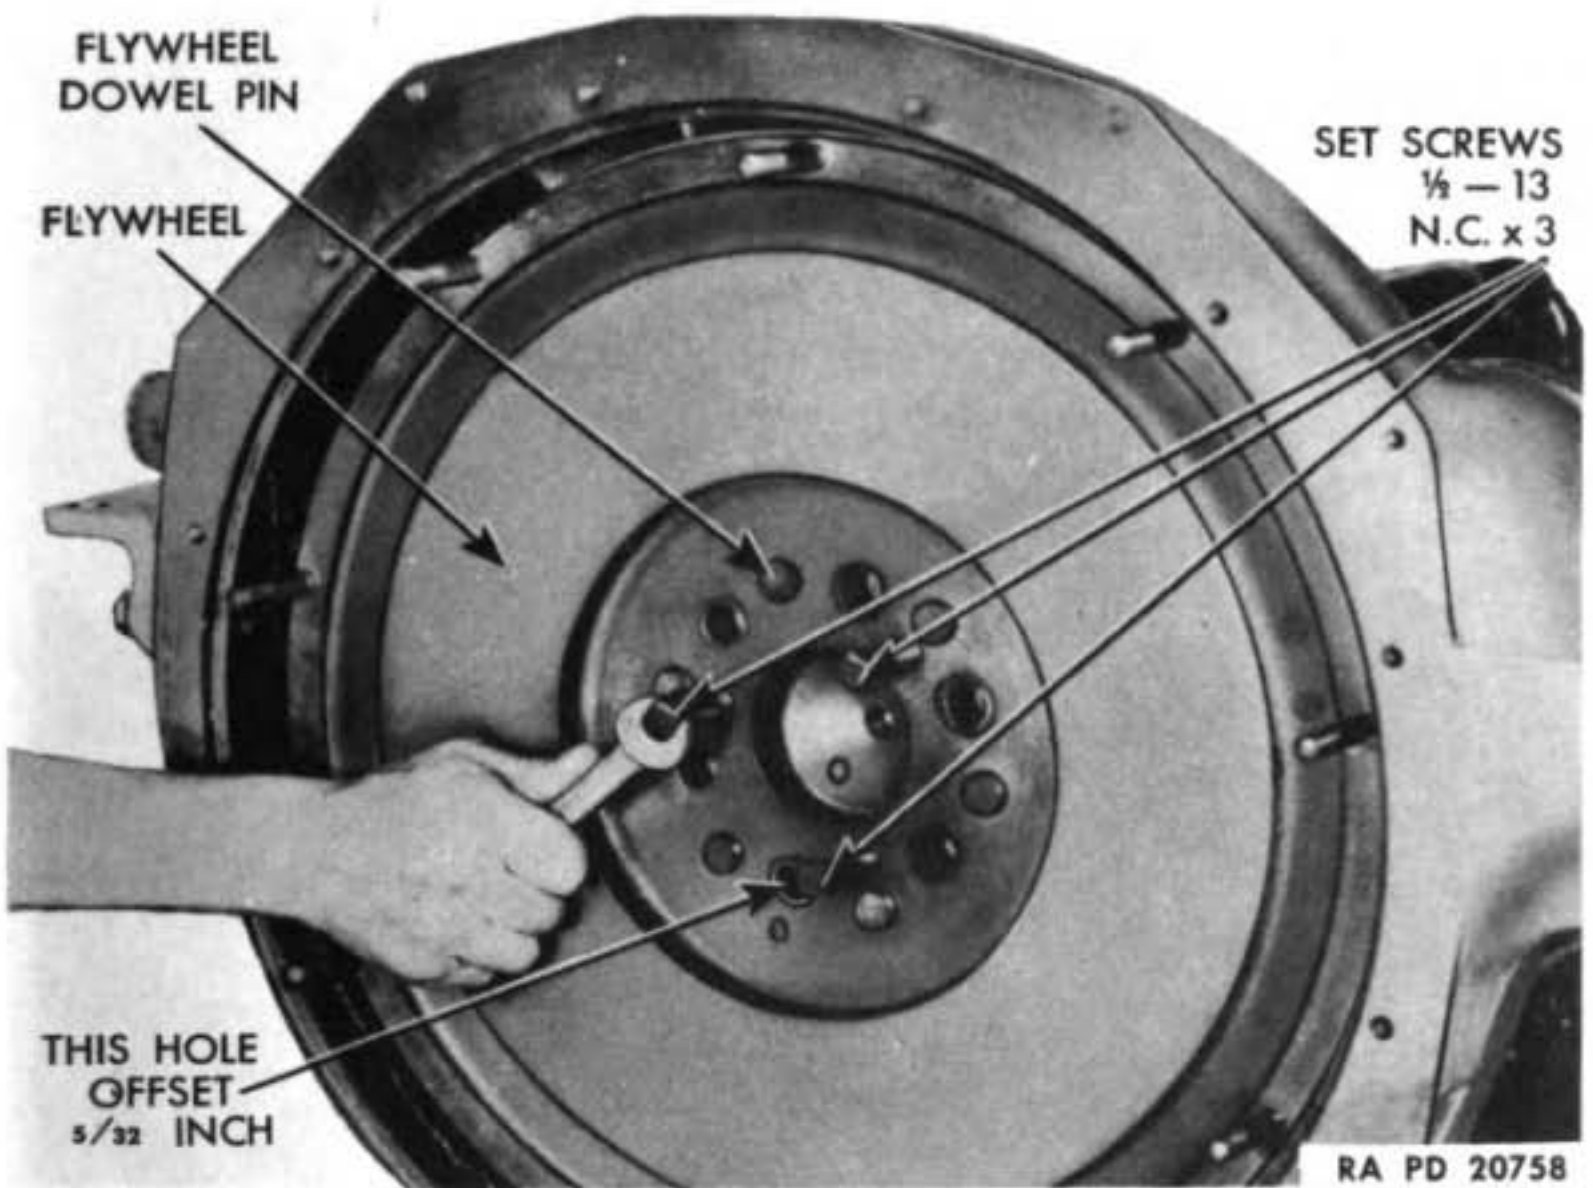

Figure 26 — Forcing Flywheel Off Crankshaft Flange with Set Screws
(2) **REMOVE FLYWHEEL.** Remove engine from stand, and place it bottom side up and crosswise on stand (fig. 26), or on two blocks of wood. Cut and remove three lock wires from six screws attaching flywheel to crankshaft (fig. 25). Remove six cap screws and lock washers attaching flywheel to crankshaft. Insert three set screws ($\frac{1}{2}$ -13NC x 3) in threaded holes (fig. 26). Turn screws alternately until flywheel is forced off crankshaft. Lift flywheel out of housing (fig. 27).